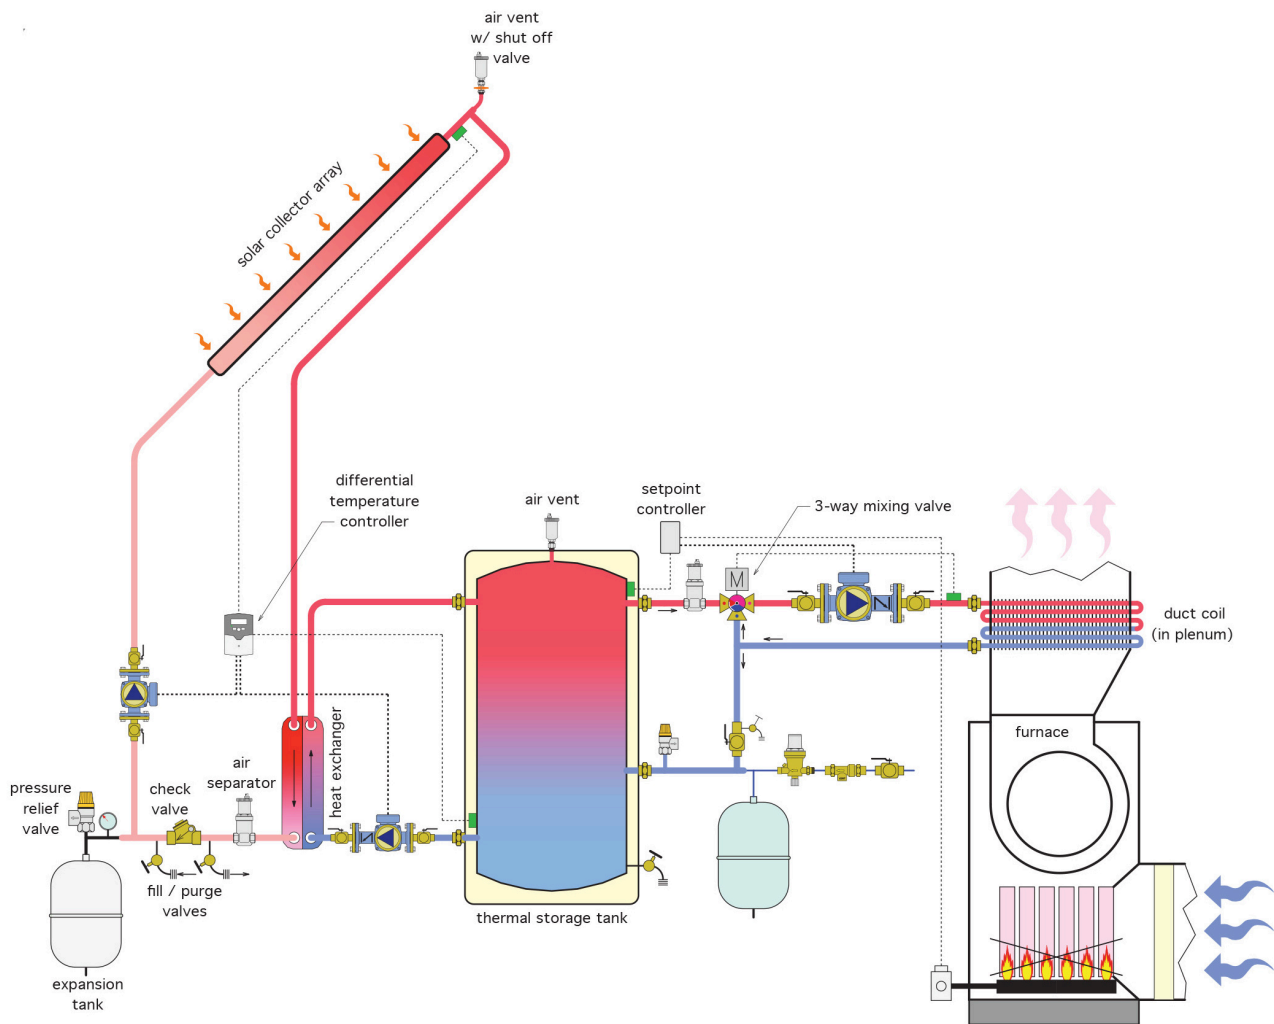

Figure 3 Active solar and forced-air furnace
- Figure 3 Externally-mounted heat exchanger using antifreeze © Caleffi Hydronic Solutions (<https://www.caleffi.com/usa/en-us>). Used with permission.
Even though the majority of homes in Canada are heating using forced-air systems, an active solar system can be incorporated to assist the energy load. Figure 3 below shows an active solar system in conjunction with a forced-air furnace.